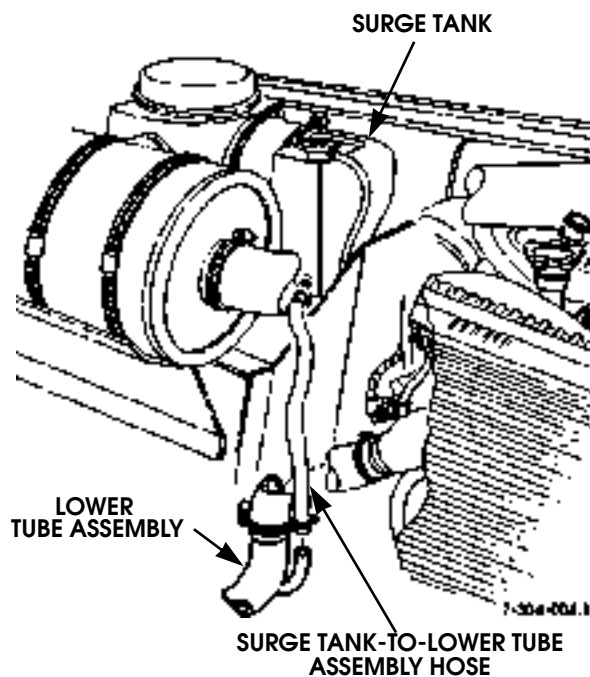

Figure 4-20: Surge Tank-to-Lower Tube Assembly Hose Location
2. Loosen clamps and remove hose from surge tank and lower tube assembly (Figure 4-20).
1. Install hose on lower tube assembly and surge tank and tighten clamps (Figure 4-20).